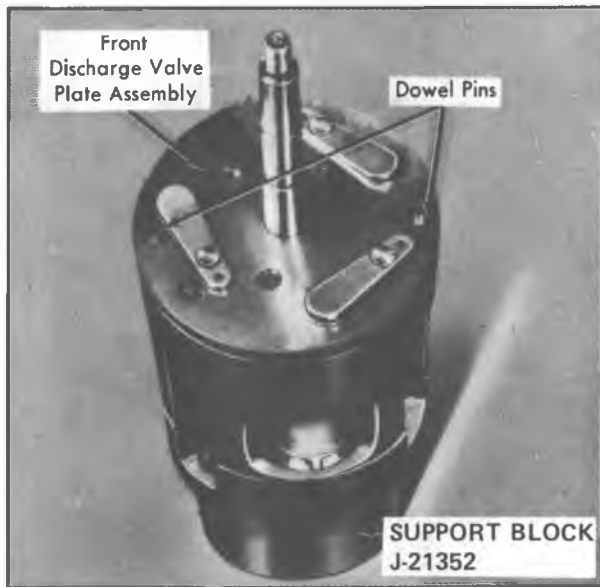

Fig. 59--Installing Front Discharge Valve Plate
5. Install front discharge valve plate assembly, aligning holes with dowel pins and proper openings in front suction reed plate (Fig. 59).